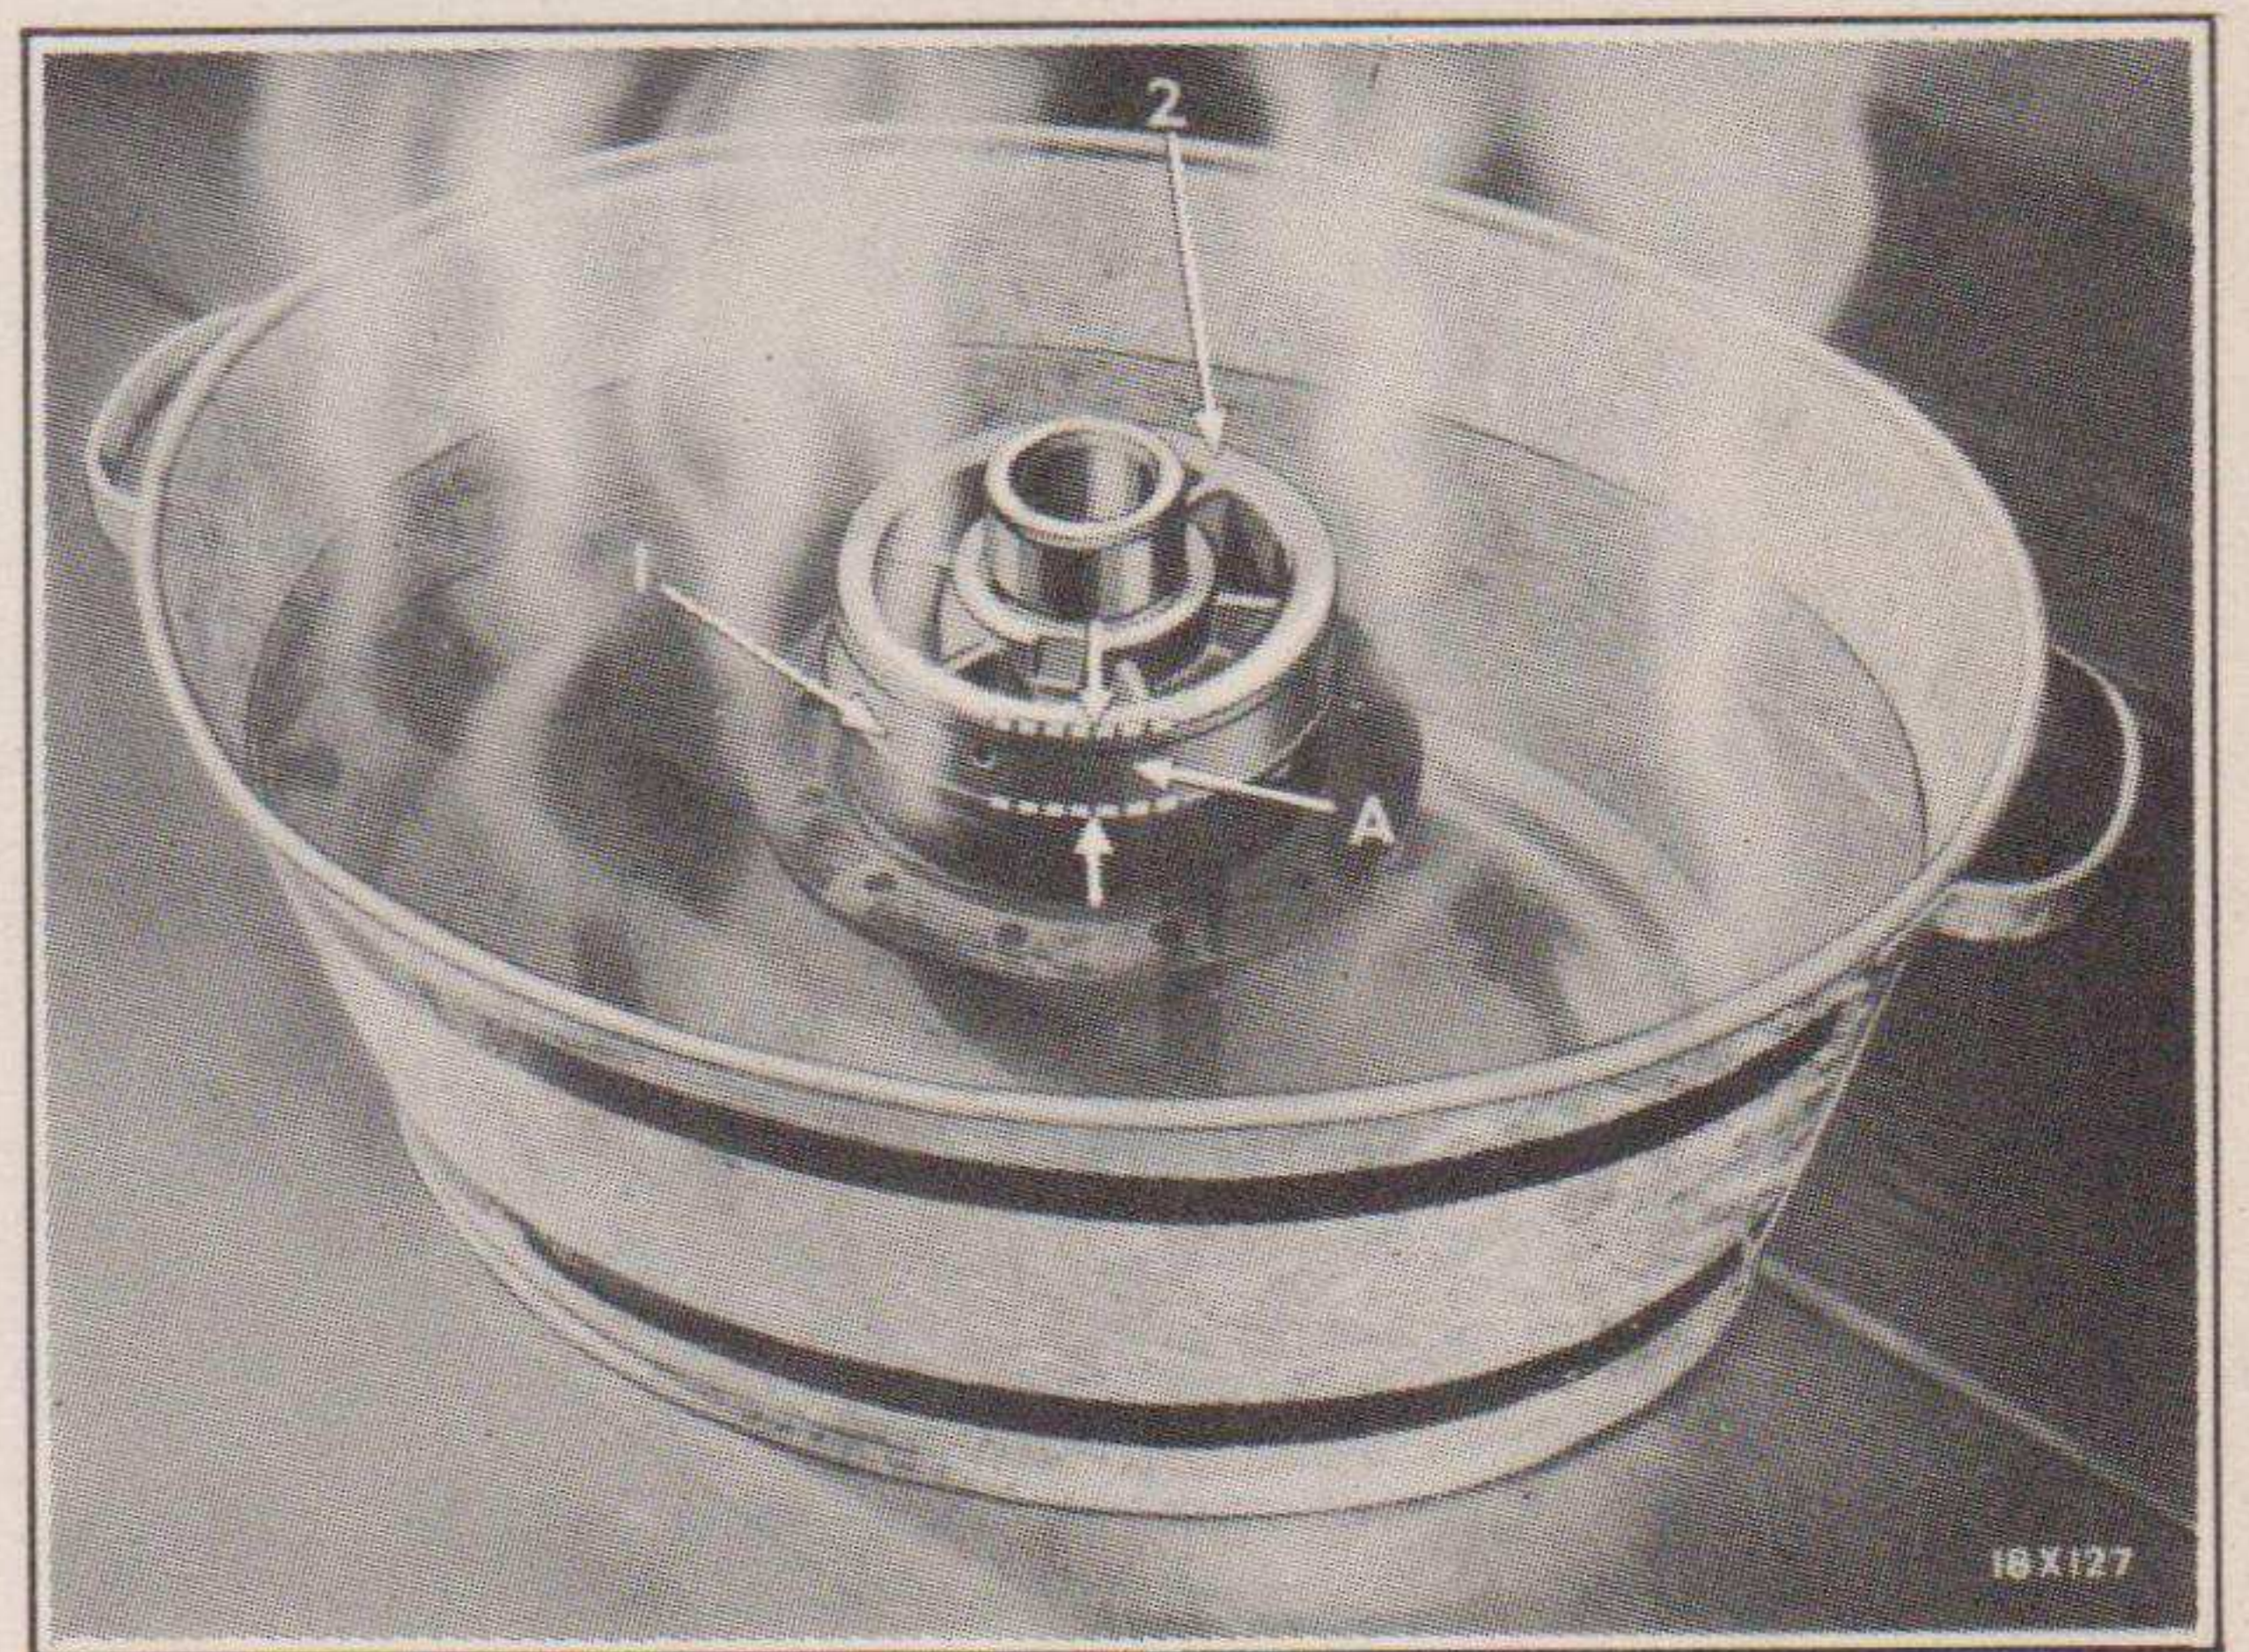

Fig. 50—Removing Differential Case Cap—Expanding the Case
- (e) Place the differential case in a pan and fill the pan with water up to a level  $\frac{1}{2}$ " below the case cap. See Fig. 50. Remove the case and boil the water, then submerge the case in the boiling water in order to heat the